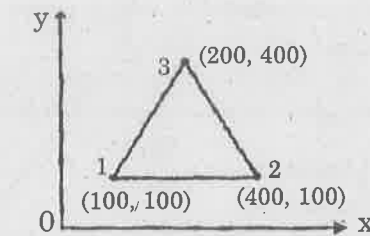

Fig. 2
14. (a) For a plane stress element shown in Fig.2, the nodal displacements $((u_1, v_1), (u_2, v_2)$ and $(u_3, v_3))$ are $((2, 1), (1, 1.5)$ and $(2.5, 0.5))$ respectively. Determine the element stress. Assume $(E = 200 \text{ GN/m}^2, \mu = 0.3$ and $t = 10 \text{ mm})$ all coordinates are in millimeters.